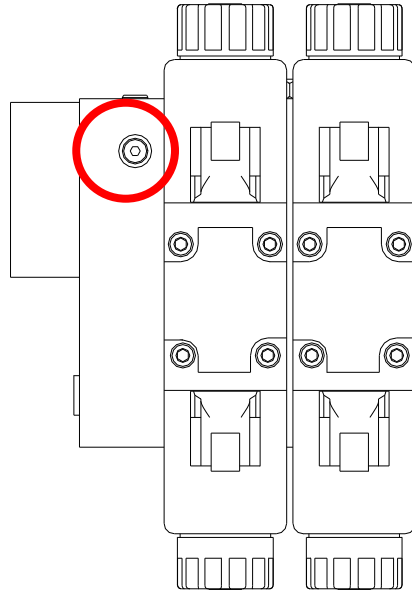

Figure 24: Load Sense Bleed Orifice Location on Top of Block
7. Remove the plug from the Sense Line Bleed port. Location is shown in **Figure 24**. Gently tap the plug with a hammer to loosen it before attempting to remove it.
8. Remove the Sense Line Bleed Orifice and discard. (**Figure 24**) Install the setscrew (F15) into the Sense Line Bleed Orifice location. Ensure the setscrew is threaded entirely into the hole and tightened to 35-40 in-lbs to ensure a tight seal. Reinstall the plug and tighten to 35-40 in-lbs.